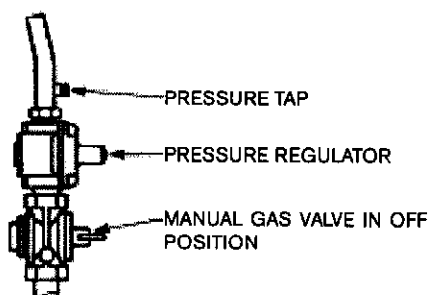

Figure 9
2. The main manual gas valve must be closed (turn valve handle clockwise) and the gas valve OFF button depressed . See figure 9.
3. Wait five (5) minutes to clear out any gas. If you then smell gas, STOP! Follow "B" in the safety information given above on this plate. If you don't smell gas, go to next step.
1. Depress OFF button and close the main gas valve by turning handle clockwise to OFF position. See figure 9.
The gas pressure specified below refer to flow pressure taken at the pressure tap in the gas inlet pipe (just above pressure regulator), figure 9, while the heater is operating at full input.